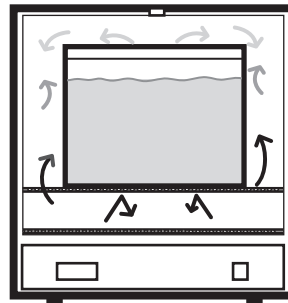

FIG. 7
- Avoid extremely large (in quantity or size), or high-density loads (FIG. 7). This will show by non-uniform processing and long or impossible "heat-through" times. To help determine a large load's suitability, use the set-point recovery time (the time it takes for the temperature to recover to the original set temperature once load is placed), as a guide.